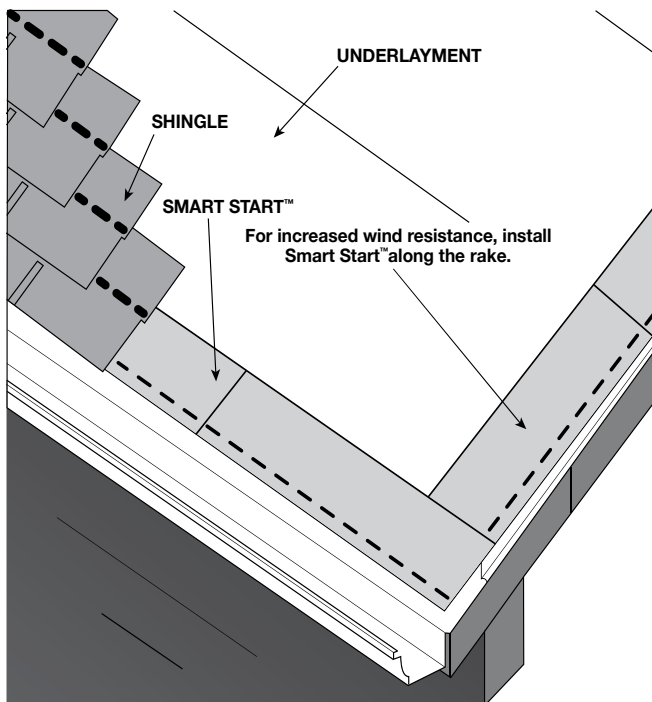

Figure 6 - Application of Smart Start® along the Eave and Rake Edges of Roof
Fasten with four (4) nails placed 1 1/2" - 3" (38 - 76 mm) back from the roof edge: one (1) nail 1" (25 mm) from each end and the other two (2) evenly spaced on the same line as the end fasteners. Do not place fasteners in the seal-down strip. No staples. (See Figure 6)